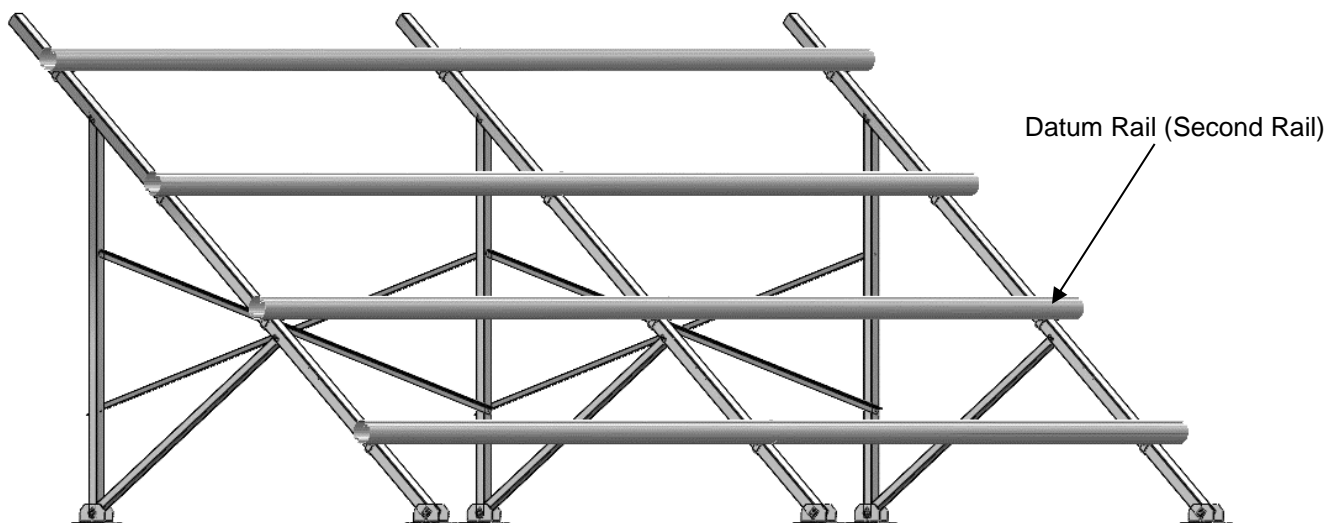

Figure 17: Rail Runs
- j. Repeat the steps 'b', 'c', 'e', and 'f'-i' for the other three rails runs (1 rail run below the datum rail run and 2 rail runs above the datum rail run). The second rail run (datum rail run) can be used as a support the upper rail runs during assembly (Figure 17).